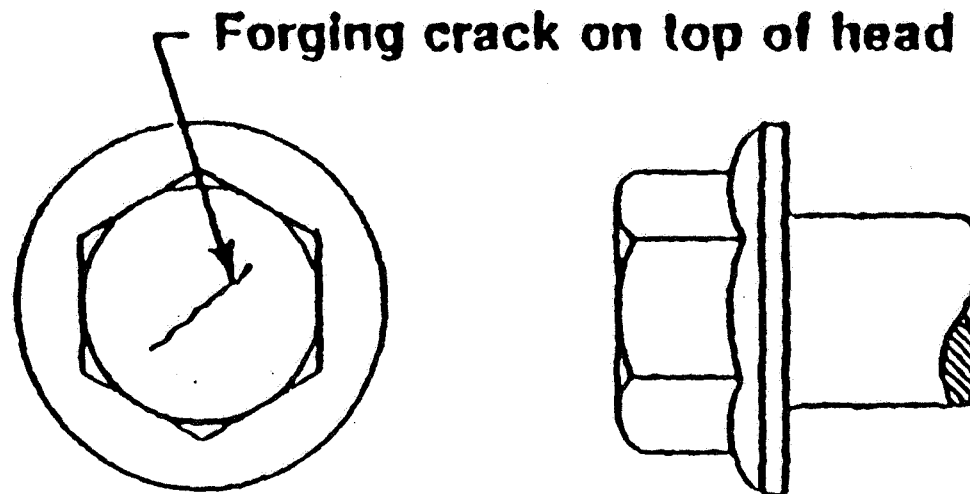

Figure 81 - Typical Forging Cracks
- ▶ No crack shall have a width or depth exceeding $0.04 \times$ the basic major thread diameter. (See Figure 81.)